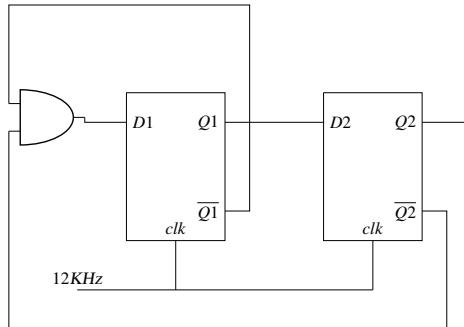

Fig. 5.16
16. In the circuit shown in Fig. 5.16, the clock frequency is 12 KHz. The frequency of the signal at $Q2$ is ____ KHz.